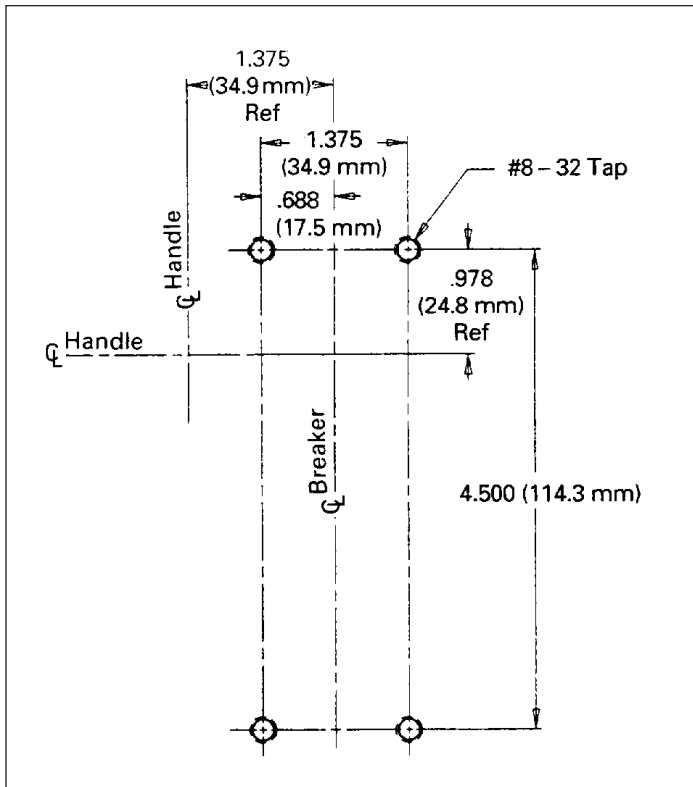

Figure 2. Drill and Tapping Plan for PD2 Breaker.
1. Determine the position for circuit breaker in the enclosure. Drill and tap the circuit breaker mounting holes in enclosure mounting surface as shown in Figure 2.